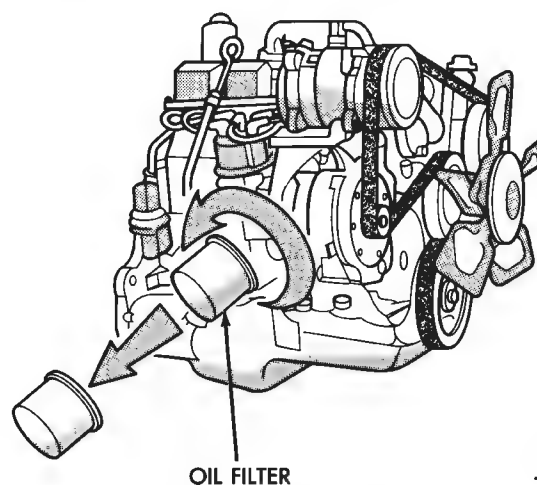
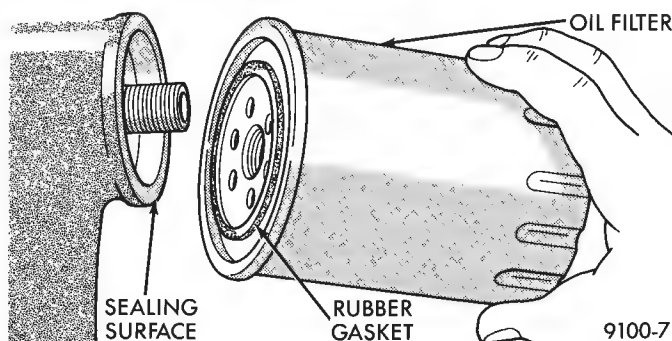

Fig. 6 Oil Filter—2.5L Engine
Fig. 8 Oil Filter Sealing Surface—Typical
(1) Position a drain pan under the oil filter.
(2) Using a suitable oil filter wrench loosen filter.
(3) Rotate the oil filter counterclockwise to remove it from the cylinder block oil filter boss (Fig. 6 and 7).
(4) When filter separates from adapter nipple, tip gasket end upward to minimize oil spill. Remove filter from vehicle.
(5) With a wiping cloth, clean the gasket sealing surface (Fig. 8) of oil and grime.
(1) Lightly lubricate oil filter gasket with engine oil or chassis grease.
(2) Thread filter onto adapter nipple. When gasket makes contact with sealing surface, (Fig. 8) hand tighten filter one full turn, do not over tighten.
(3) Add oil, verify crankcase oil level and start engine. Inspect for oil leaks.